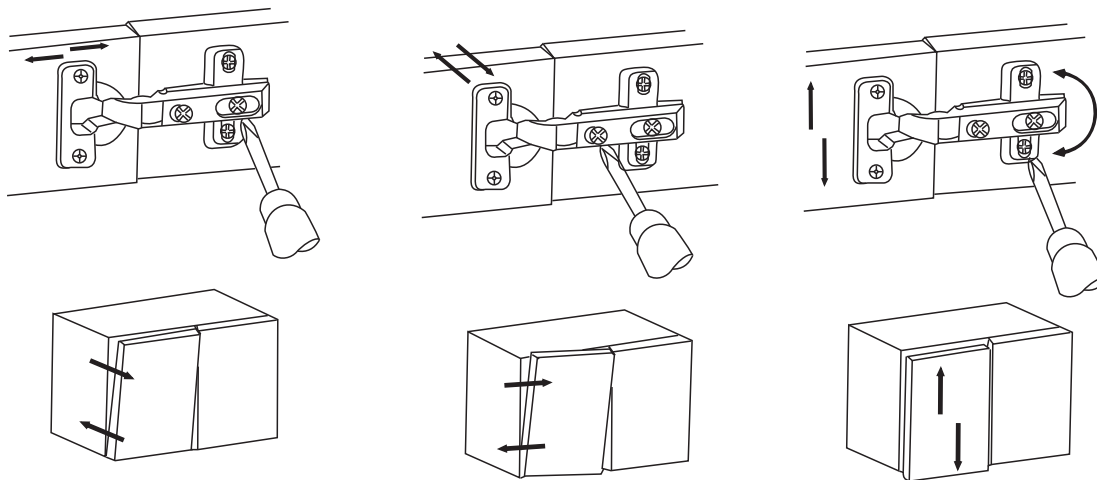

Fig.7
15. Adjust the hinge of dovr in 3 direction to make sure the door level, see Fig.7.